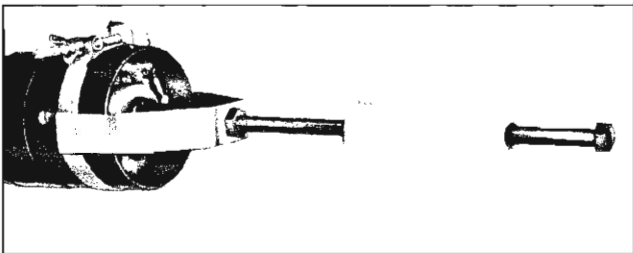

Fig. 19—Removing the Turn Signal Cover
4. Remove the turn signal cover using Tool J-21486 with slide hammer J-6585 and puller bolt J-9539. Tap cover off carefully (fig. 19).